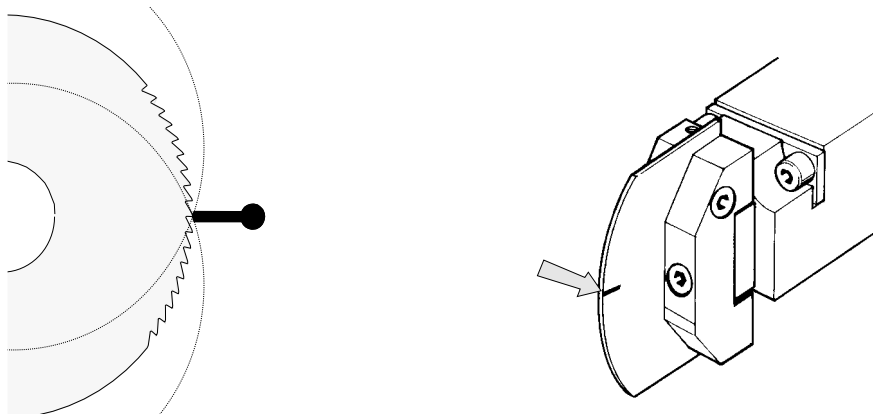

Fig. 19
- 1) lowering the motor carriage using the lever (G1) until the original bit is aligned with the center mark on the tracer (fig. 19, page 15) and lock using knob (H) (fig. 6, page 7).
- 2) proceed to duplicate the key using lever (F).